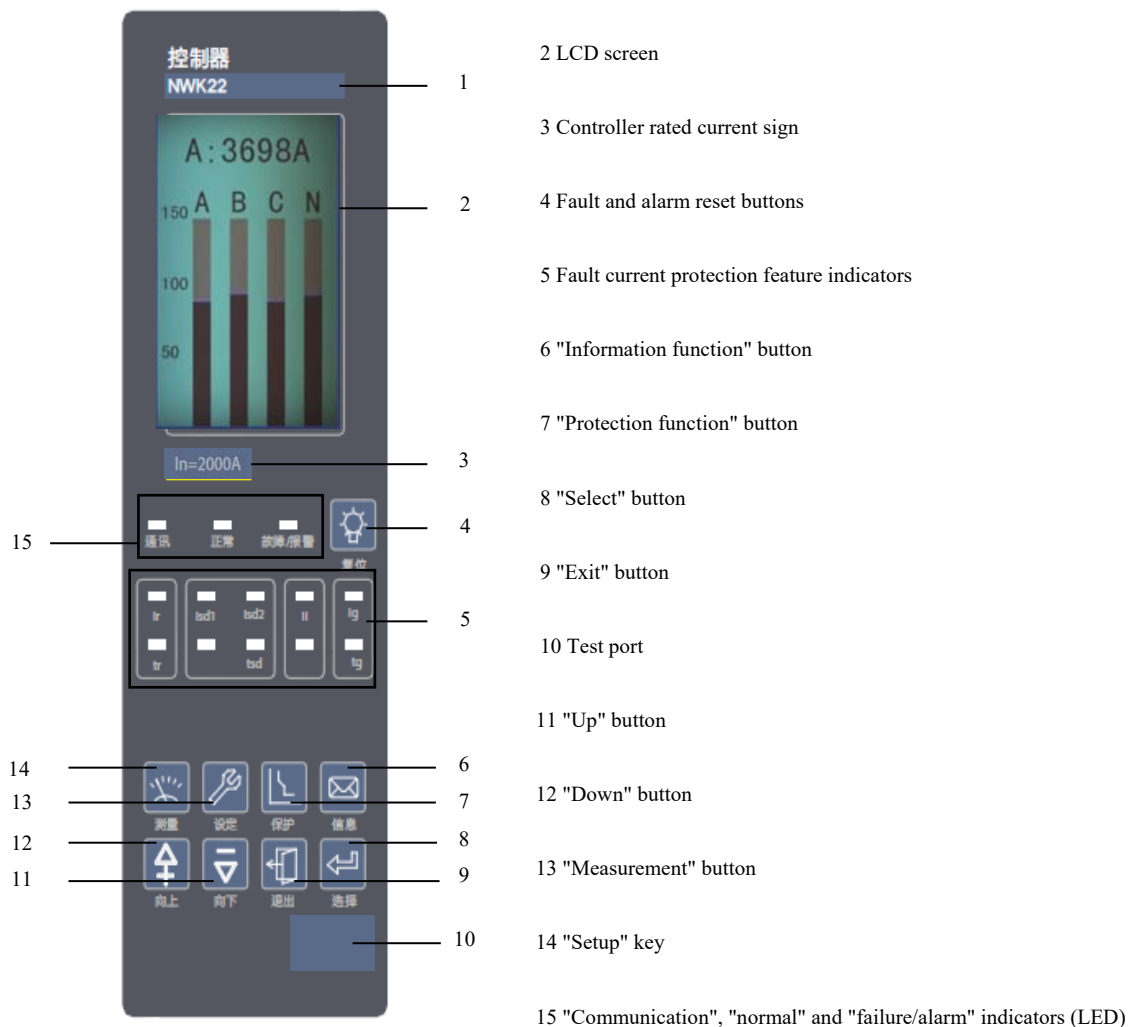

Figure 7
4) NWK22 controller, as shown in Figure 7